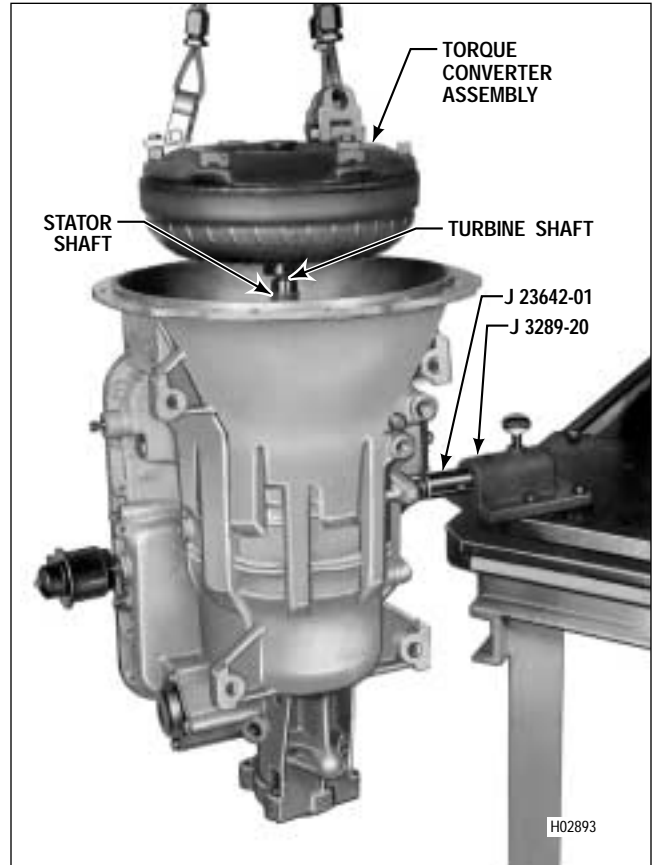

Figure 5-2. Removing Torque Converter During Overhaul
(10) Secure fixture in fixture base and position the transmission with the torque converter upward (Figure 5-2).
- (1) Remove the bolts and nuts that hold the converter retaining device to the transmission housing.
- (2) Attach a three-strand sling to the torque converter. Lift the converter from the transmission housing and place it on a work table (Figure 5-2).
- (3) Refer to Paragraph 6-3 for inspection (and, for AT 543, rebuild) of the torque converter.